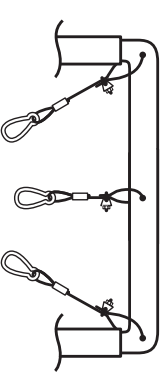

Figure 2
3. Slide the cable clamp up on the cable and tighten it, leaving one inch of cable hanging below. **See Figure 2.**